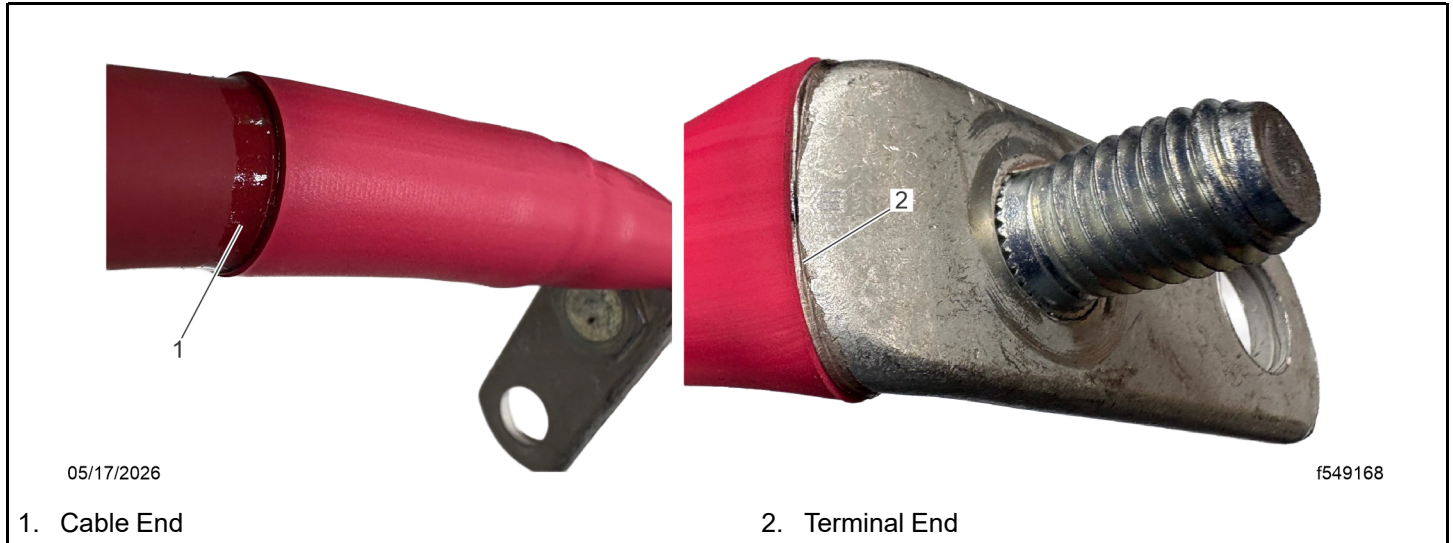

Fig 63, Continuous Adhesive Seal at Cable and Terminal Ends
- Confirm a continuous ring of adhesive can be seen around the circumference of the sleeve at both ends. See Fig. Fig. 63.